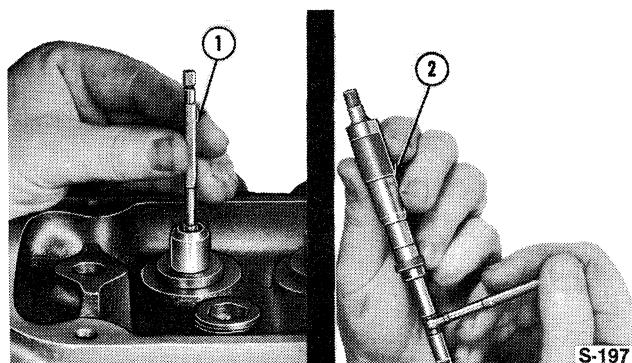

Figure 16
8. Using a telescope gauge and micrometer, determine the valve to guide clearance, Figure 16. Measure the guide bores at right angles to the engine axis, and subtract the valve stem diameter. If the clearance exceeds the specified limits, see "Specifications" — Chapter 3, ream the valve guide to fit the next oversize valve.